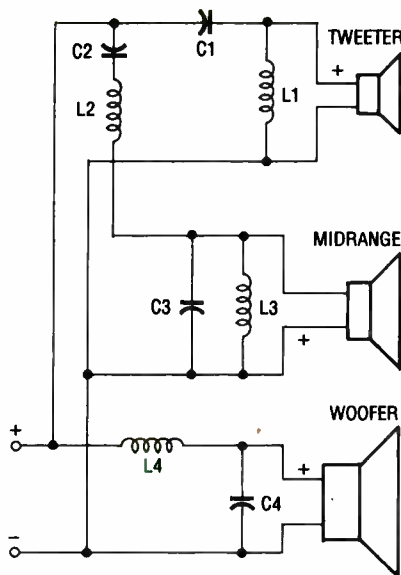

Fig. 11. A three-way second-order crossover has a pretty impressive name but it's pretty easy to build. Note the reversed midrange polarity.
**A Three-Way, Second-Order Crossover.** Figure 11 shows a 3-way second-order crossover network. Note the tweeter is wired with the same polarity as the woofer, but now the midrange is reversed. Calculate the parts value as follows: